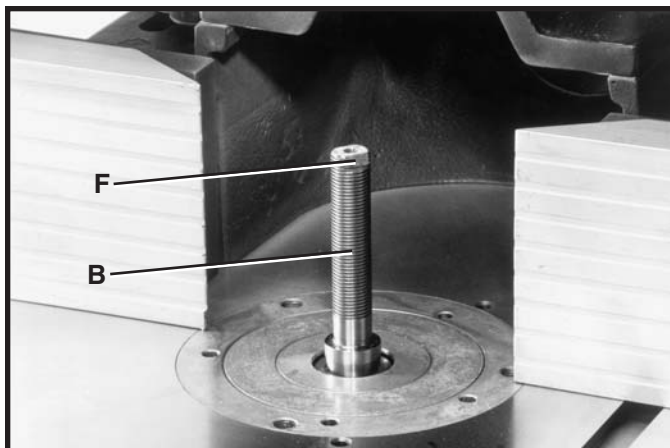
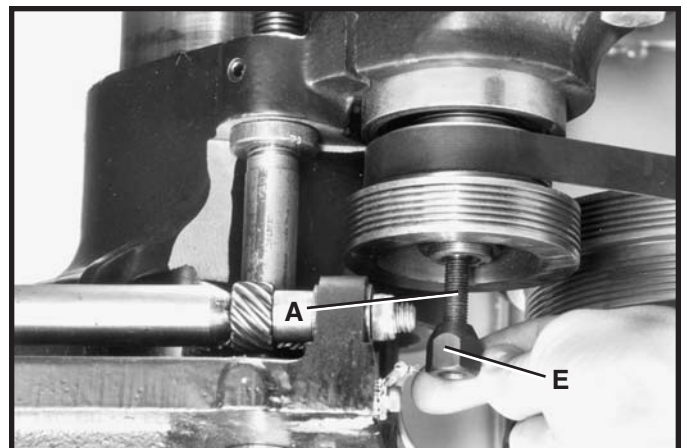

Fig. 32
Fig. 33
3. Fig. 32, illustrates the spindle (B), inserted into the spindle cartridge.
5. Place wrench on flats (F) Fig. 32, on top of spindle and tighten nut (E) Fig. 33, on bottom of tie rod to fasten spindle to spindle cartridge.